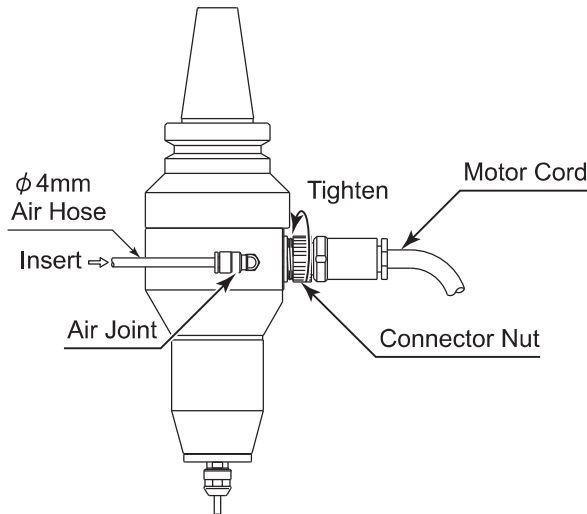
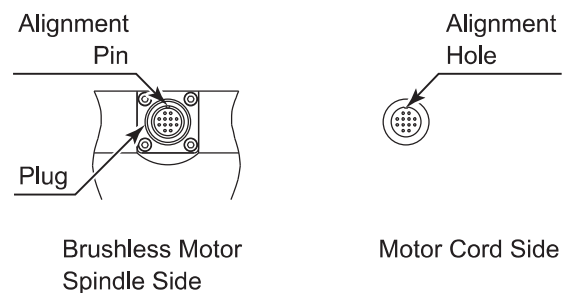

Fig. 16
Fig. 17
- ④ Insert the $\phi 4\text{mm}$ air hose to the Air Joint on the side face of the Brushless Motor Spindle (Fig. 16).
- ⑤ Remove the Electrical Protective Cap of the Motor Cord and keep it for use when not using the Motor / Spindle to keep the connector pins safe and clean.
- ⑥ Carefully insert the Alignment Pin on the Motor / Spindle into the Alignment Hole on the Motor Cord, then push the connector straight into the Electrical Connection of the Motor / Spindle (Fig. 17).
- ⑦ Tighten the Connector Nut of the Motor Cord in a clockwise direction (Fig. 16).
Install the Lock Bar by screwing the Lock Bar into the threaded hole provided on the taper shank as shown in Fig. 17.